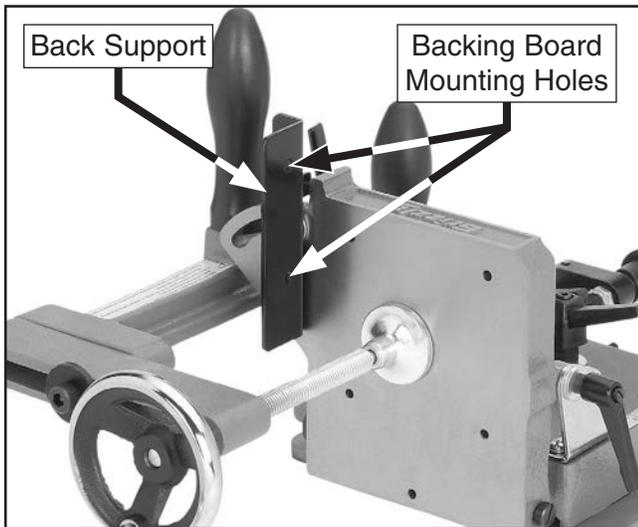

Figure 23. Mounting holes for back support backing board.
- Cut a backing board approximately 2" wide by 9" tall out of a piece of 3/4" plywood, then mount it to back support using either wood screws through back of support or recessed cap screws and hex nuts through front of backing board (see **Figures 23–24**).